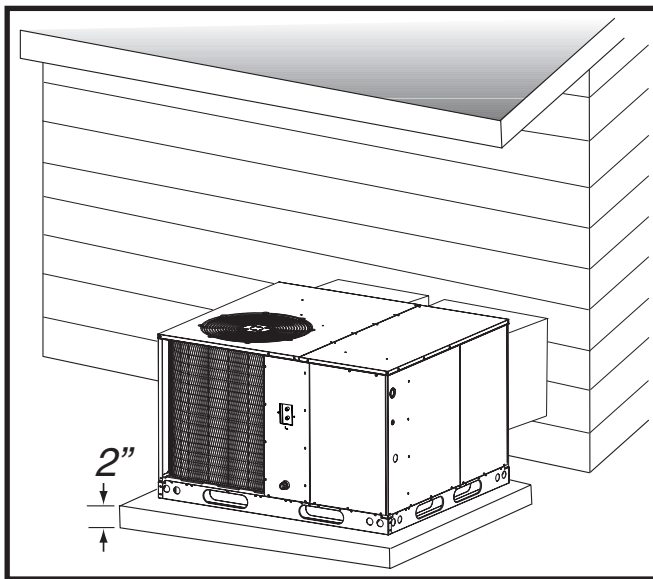

Figure 2. Ground Level Installation
- Clearances must be in accordance with those shown in Figure 2. Also consider clearances for access to the internal filter.